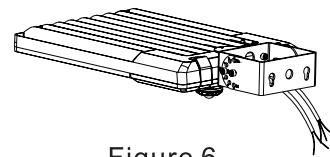

Figure 6
Step 2: Install the bracket on the fixture. (Fig. 6)